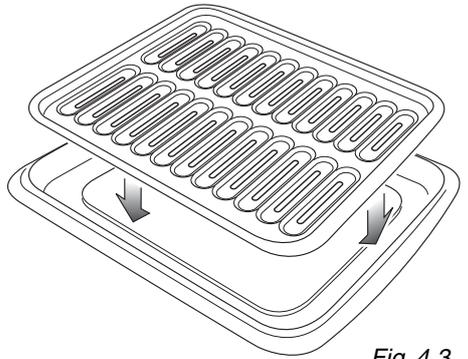

Fig. 4.3
- Introduce the broiler tray (fig. 4.3) in the oven. The broiler tray should be placed above the shelf and it should be centered with the broil element (fig. 4.2).